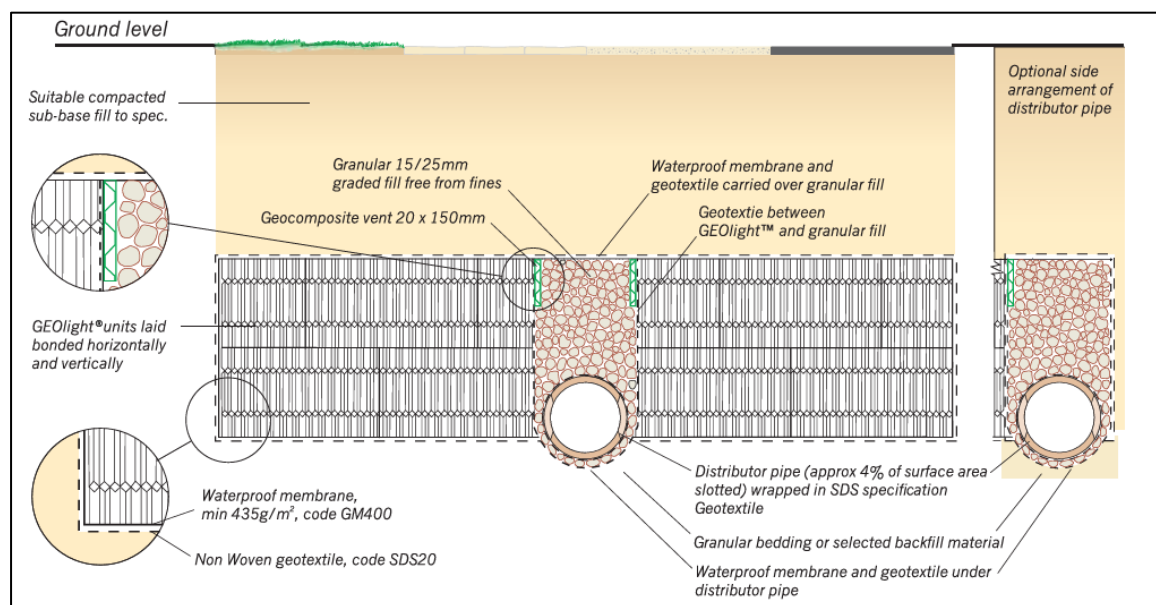

Figure 3: SDS GEOLight Cross Section
4.9 The SDS GEOLight system appears to have been substituted and installed in this area. This product typically requires a specific arrangement, including a perforated pipe running centrally through the attenuation crates, as illustrated in **Figure 3** below.